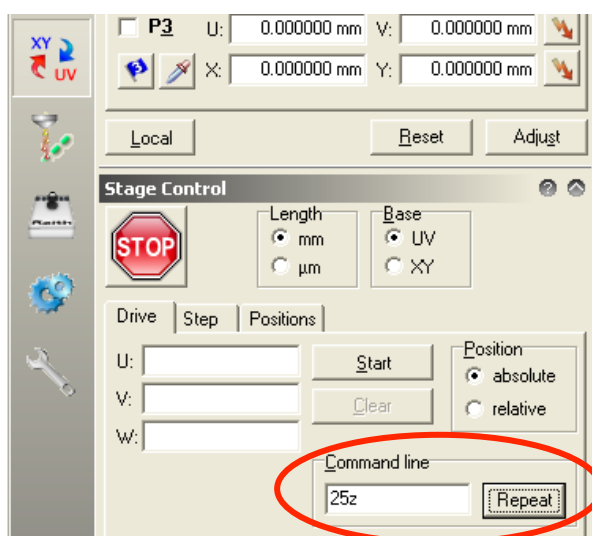

Figure 8: Stage control.
2. Drive the stage to $z = 25$ mm, which corresponds to approximately 10 mm working distance (this is the distance between final lens and sample. If you are using samples that are thicker than normal wafers (about 0.5mm) you must drive to a lower z position (i.e. less than 25 mm) to keep enough distance between sample and final lens. **DO NOT LOAD SAMPLES HIGHER THAN 15MM!** Control the z -position using the Command Line in the Stage Control tab (see Figure 8). You could also use the 'Drive' tab and by setting the base to XY. But it is better to keep them in UV-mode since this is the only operation you will do in the XYZ coordinate-system and it will does prevent you from getting confused. Once you have typed the 'z' into the command line it already starts to move the stage.
3. Sometimes it may be necessary to work at smaller working distances to achieve a better signal-to-noise ratio for imaging. For samples with wafer thickness the software-limits of the stage should prevent you from driving into the final lens. However, a lot of care should be taken when doing this, and this should be always supervised using TV-mode! Note the STOP button in Figure 8, which you can use to stop the stage movement at any time.